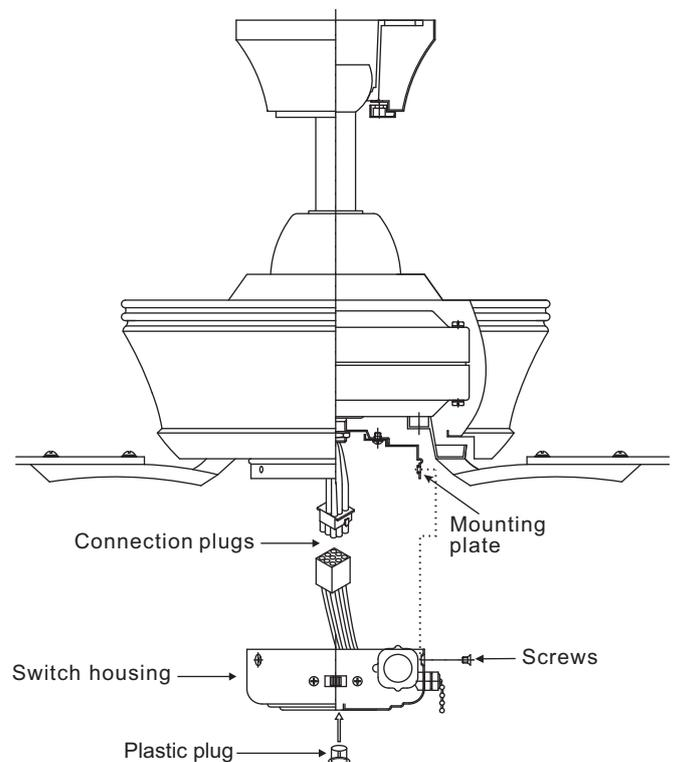

Figure 16
2. Attach the plastic plug to the switch housing. (Fig. 16)
3. While holding the switch housing under your fan, snap together the wire connection plug. (Fig. 16)
4. Install the switch housing to the mounting plate with screws provided. (Fig. 16)